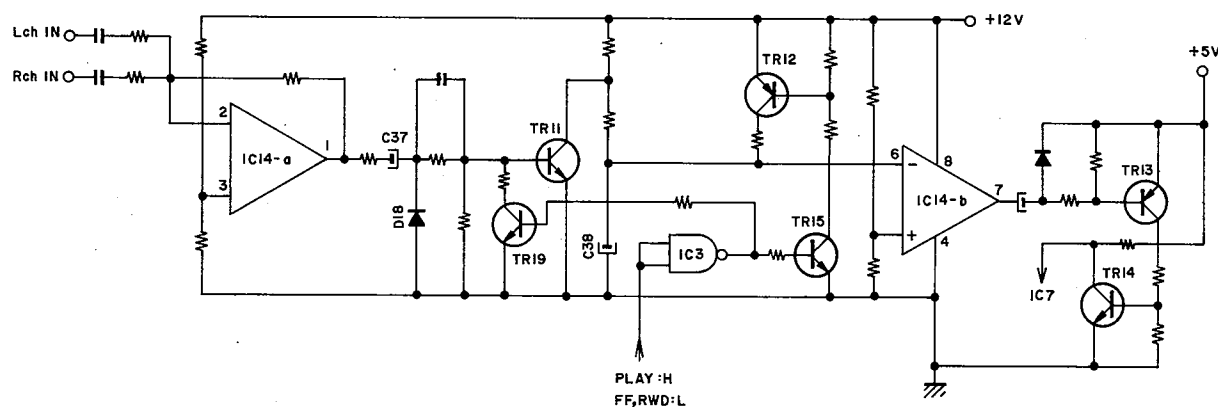

Fig. 6
(Refer to Fig. 6 and Schematic-8)
- 2) Explanation of circuitry detecting the no-signal portion between songs (See Fig. 6). When the FF or RWD key is depressed with the IPLS switch depressed, the PAUSE plunger is activated, and the head contacts the tape. The signal with Lch and Rch mixed enters to the IC14-a ② terminal. After being amplified by IC14-a, it is positive clamped by C37 and D18 and added to TR11's base as bias. When TR10 is ON, IC14-b ⑥ terminal becomes almost earth potential so at terminal ⑦ voltage of +12V appears. As a result TR13 goes OFF.
- 3) When a no-signal portion is reached, the bias disappears in TR11's base, C38 is charged and IC14-b's ⑥ terminal potential is raised. Thus, as IC14-b's ⑦ terminal potential is lowered, charging current flows to C40. As result, TR13's